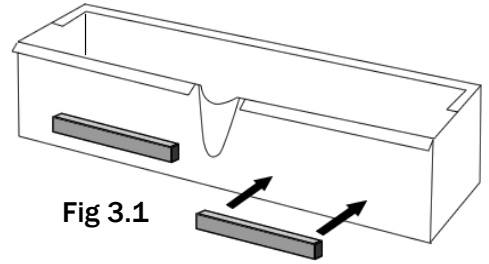

Fig 3.1
1. Locate the reservoir (L) and the EVA Cushion Strips (O). Peel the paper off the adhesive strip and place each pad about 1" up from the bottom of the reservoir and 2" in from each side as shown in the drawing (Fig 3.1).